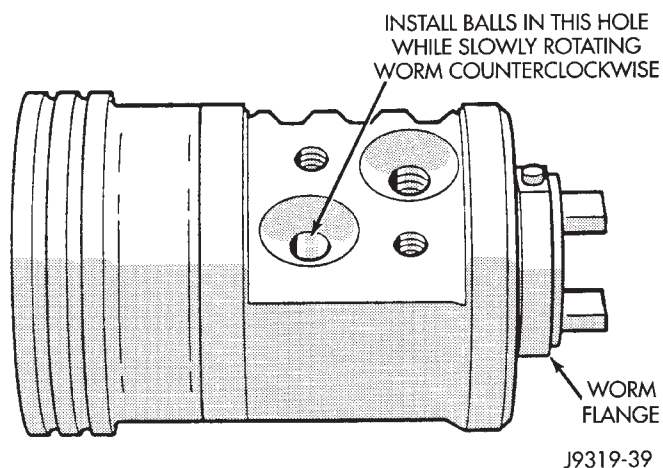

Fig. 32 Installing Balls in Rack Piston
- (1) Install O-ring seal and teflon ring and lubricate with power steering fluid.
- (2) Install worm shaft to rack piston outside of housing. Fully seat worm shaft to rack piston and align worm shaft spiral groove with rack piston ball guide hole (Fig. 32).